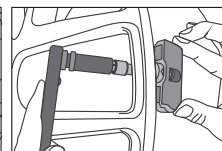

Fig 5
- (Fig 5/6) Install valve to the rim hole. Guide the washer into the valve, and fix the nut by 4 Nm in torque, then tighten the cap.